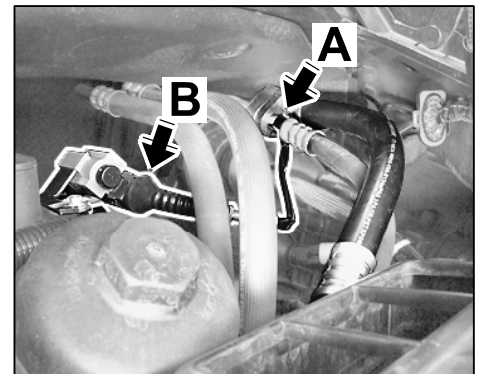

Figure 31
Engine compartment → through the grommet ⇒ *Figure 31 -K-* → along the standard wiring harness → DME control unit
- 8.3.4 Connect 2-pin plug connection to the electric change-over valve ⇒ *Figure 31 -arrow B-* and fit the holder on the refrigerant line flange ⇒ *Figure 31 -arrow A-*.